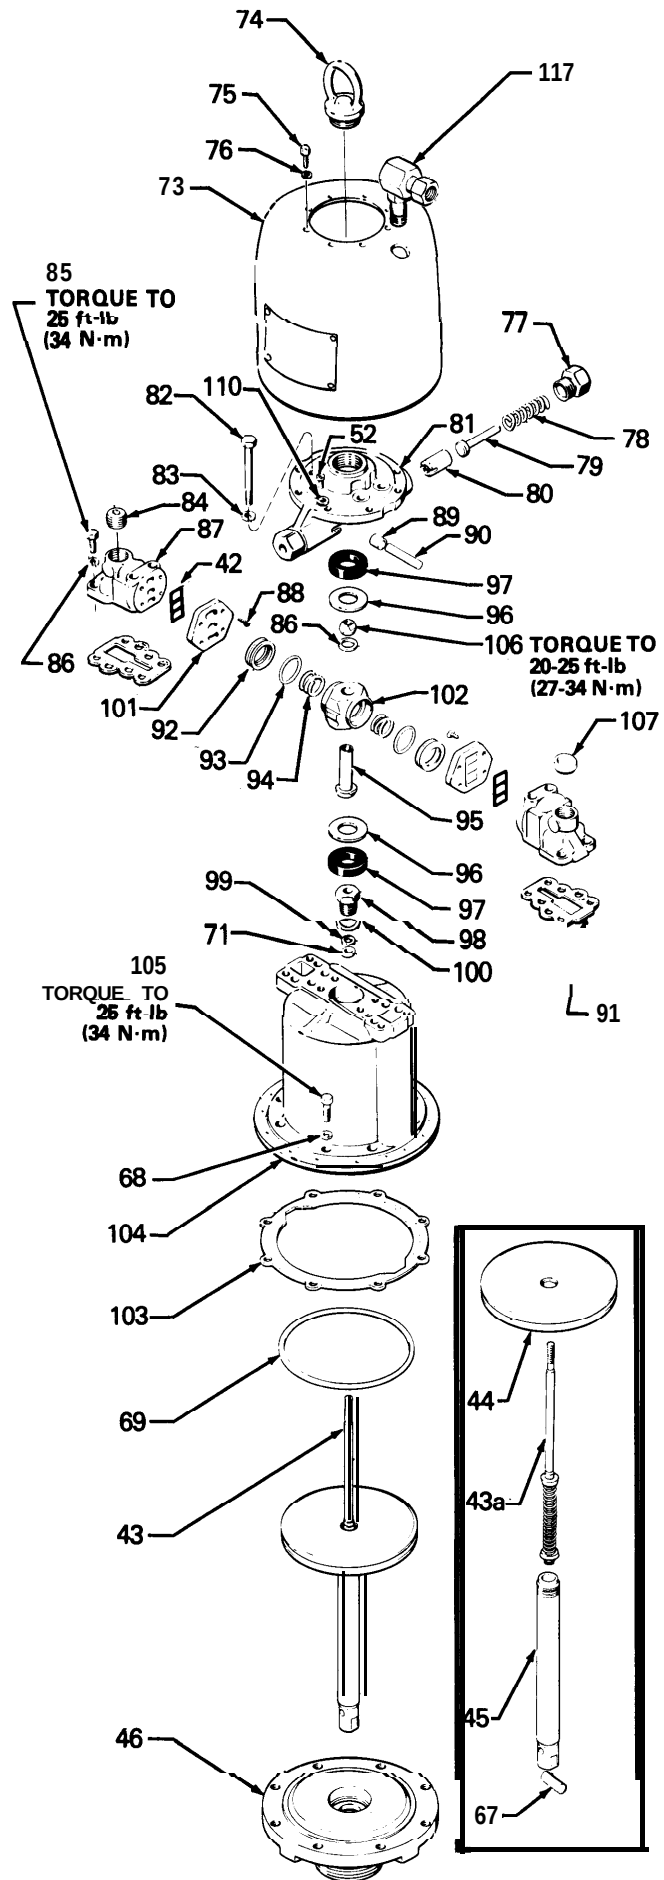

Fig 3
3. Remove the swivel adapter (117). Remove the eight capscrews (75) and lockwashers (76), then lift the air motor shield (73) off the motor.
4. Remove the air inlet spring cap (107) and the detent spring retainers (77). Take out the compression springs (78), spring guides (79), and the plungers (80). See Fig 3. Inspect the parts for wear or damage and replace them as necessary.
5. Remove the four screws (82) and lockwashers (83) holding the detent housing (81). Lift the housing up off the air manifolds (87) while holding the detent rollers (89) in the housing. See Fig 3.
6. Remove the detent rollers (89), axles (90), thrust washer (96), and dampening pad (97) from the detent housing (81). Inspect the parts for wear and damage. If either the roller or axle is worn or damaged, replace both; they are a matched set.
7. Remove the capscrews (85) and lockwashers (86). Carefully remove both air manifolds, as the air director valves (92) are spring compressed between the air valve housing (102) and the manifold valve plates (101). Check the air director valves (92), o-rings (93) and springs (94) for wear or damage. Replace if necessary.
8. Remove the four screws (88) in each manifold plate (101). Check the manifold plates and seals (42) for wear or damage. Also remove the air manifold gaskets (91). Replace any worn parts.
9. Remove the trip rod nut (106) and the lockwasher (86) from the trip rod (43a). Pull the air valve housing (102) up off the trip rod. See Fig 3.
10. Pull the trip rod and piston assembly (43) up as far as possible. Grip the trip rod (43a) below the bushing (95) with padded pliers, and screw the bushing off the trip rod.